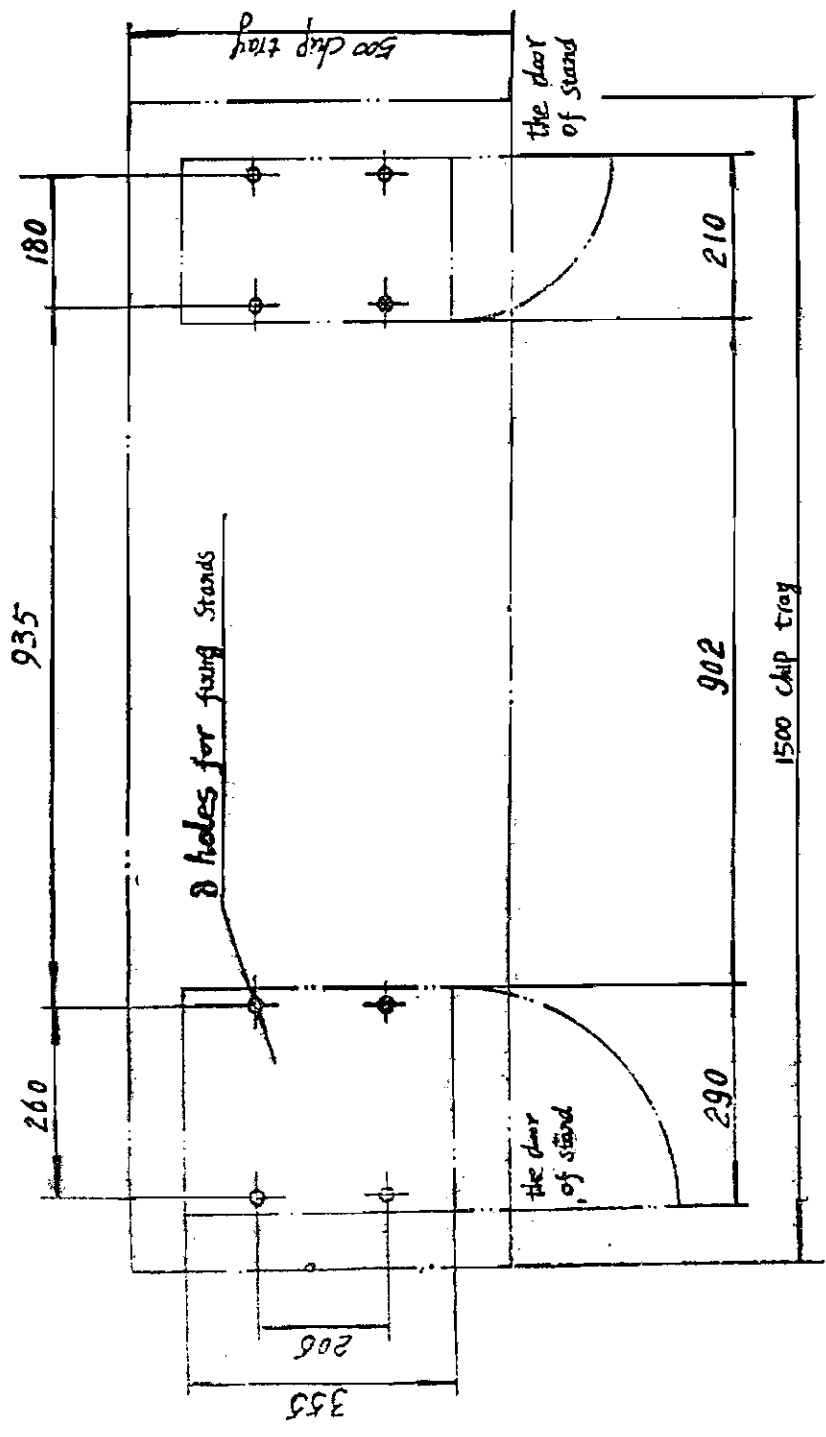

FIG. 3 Fixing dimensions for lathe stand cabinets
4. The fixed dimension of this machine are shown in the Fig. 3. The machine should be firmly attached to the floor by lathe stands. If you purchase a bench lathe, place the chip tray on top of the bench, mark off the location of the bed mounting holes using a pencil. Then drill the six bolt holes.